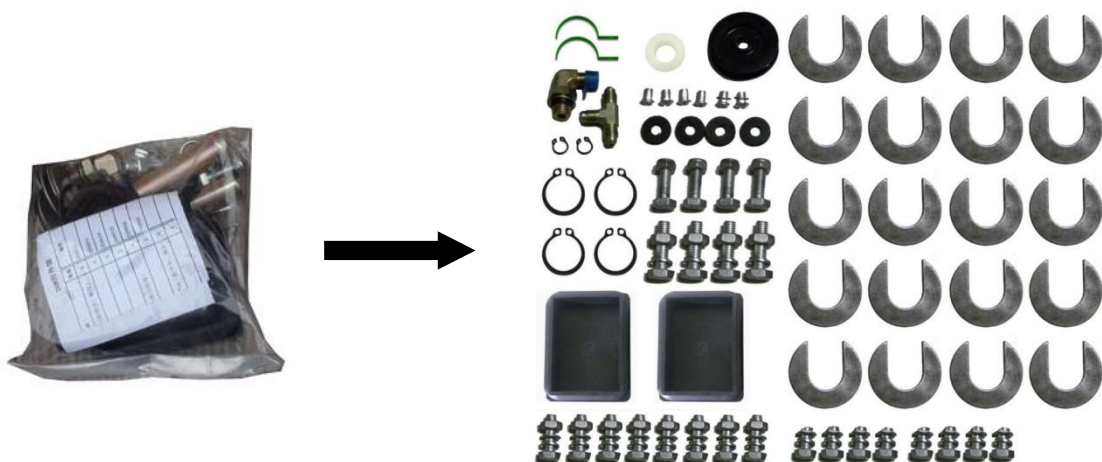

Fig. 13
5. Open the bag of parts and check the parts of the parts bag according to parts bag list (See Fig. 13).